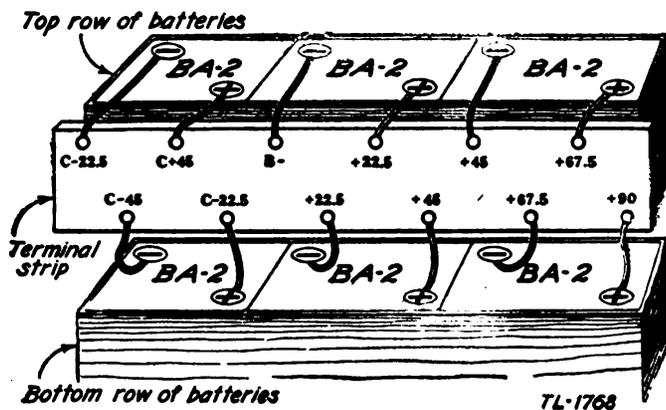

FIGURE 11.—Box BX-12, terminal strip-battery, BA-2 connections.
corners. The box contains compartments for the batteries and spare tubes. The terminal strip (fig. 11) provides individual binding posts for the leads of all six batteries BA-2. The four batteries BA-23 and the one battery BA-27 are properly terminated by the use of interconnecting wires which are connected to the four sockets on the hinged front. The capacitor CA-177-A, also mounted on the interior of the hinged front, is a bypass capacitor across the receiver bias battery.
(1) Face the front of the box and open the hinged cover and front. *Do not lose the metal space collar on each of the two thumb-screws.*
(2) Place three batteries BA-2 in the right compartment with their red leads nearest the terminal strip and connect them as indicated in figure 11, bringing the leads *under* the terminal strip.
(8) Place three more batteries BA-2 on top of the first three with their red leads also nearest the terminal strip, and connect them as indicated in figure 11, bringing the leads *over* the terminal strip.